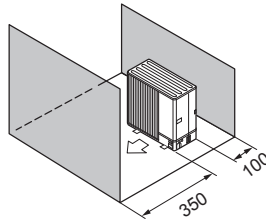

Fig. 1-11
- ⑤ Obstacles at front and rear only (Fig. 1-11)